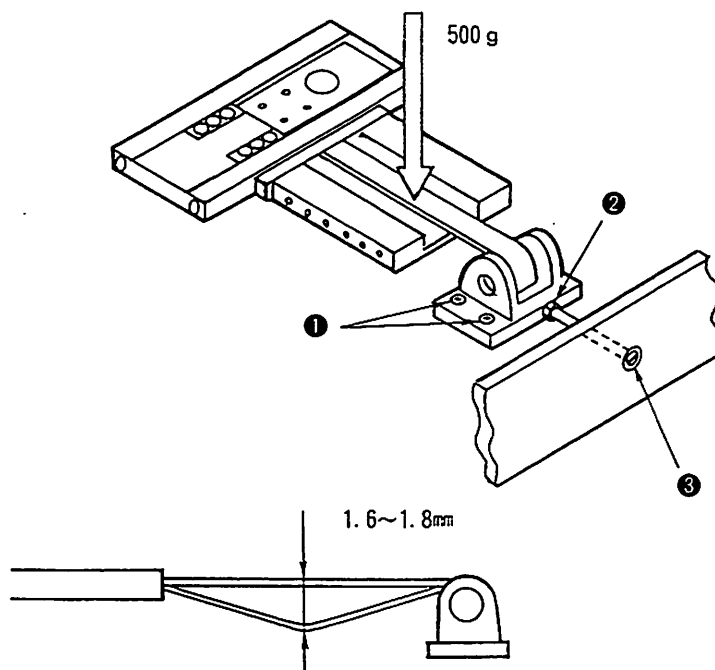

Fig. 5-31-1
<p>○ Loosen screw ❶ and nut ❷. Turn tension adjusting screw ❸ to adjust the belt tension. Tighten screw ❶ and nut ❷.</p> <p>[Caution] Tightening screw ❶ will affect the belt tension, so check the belt slack again after tightening screw ❶. (Fig. 5-31-1)</p>	<p>○ The pattern may be deformed.</p>